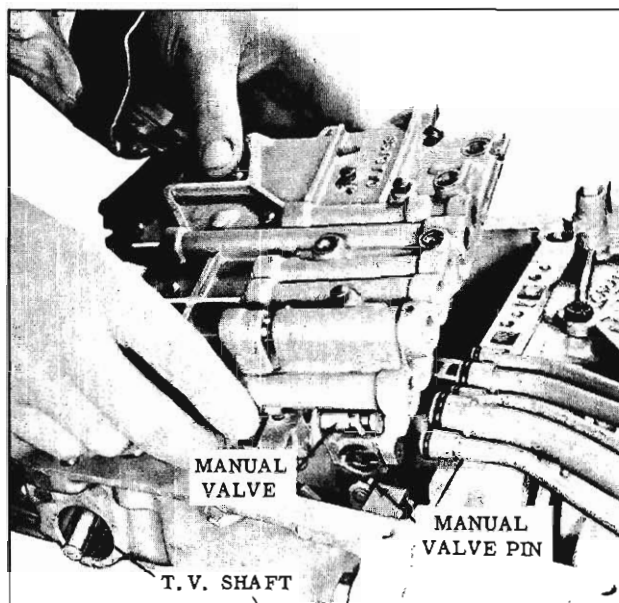

Fig. 6-122 Installing Valve Body
22. Apply petrolatum to valve body pipe ports and install valve body assembly by guiding T.V. shaft through opening in rear bearing retainer and positioning manual valve on pick up pin. Position pipe assembly to index with pipe ports in valve body and move forward to seat pipe seals. (Fig. 6-122) Install five valve body attaching bolts. Torque 6 to 8 ft. lbs.